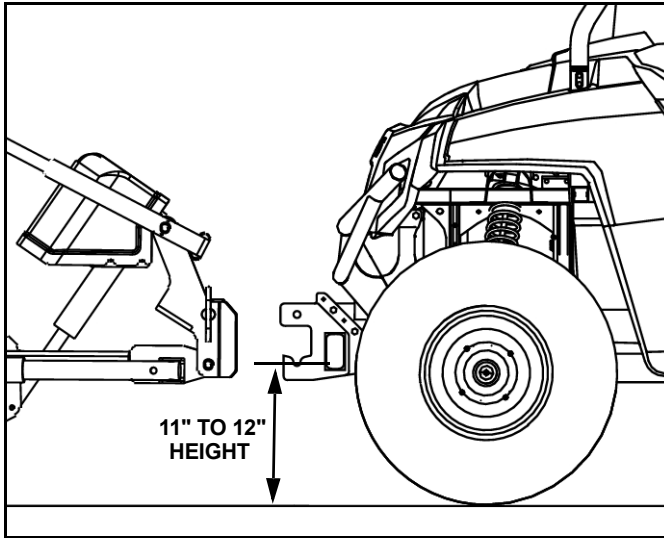
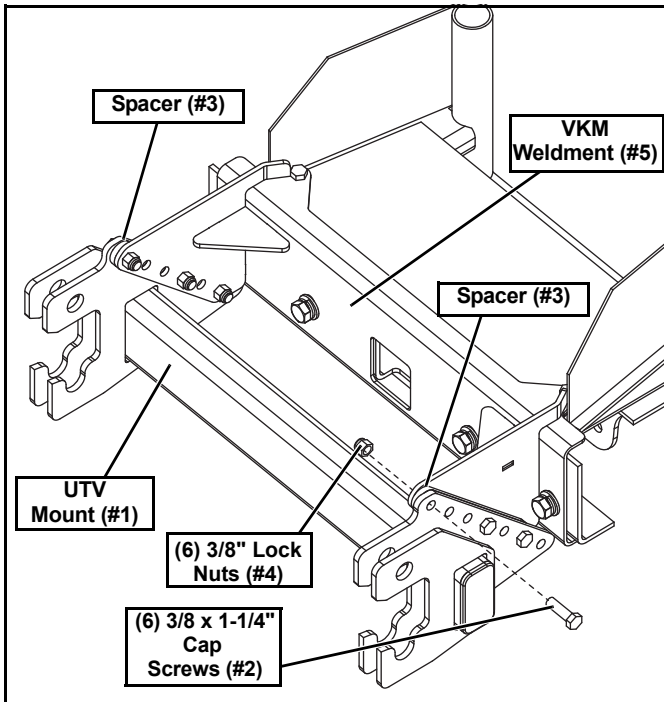

Figure 3
Figure 4
7. Position the UTV Mount (#1) on the machine. Align the Mount holes with the VKM Weldment (#5) to provide an 11" to 12" height between the lower pin slots and the ground. (See Figure 3.) Place spacers (#3) between VKM Weldment (#5) and UTV Mount (#1). Secure with (6) 3/8" x 1-1/4" cap screws (#2) and (6) 3/8" lock nuts (#4). Tighten hardware. (See Figure 4.)